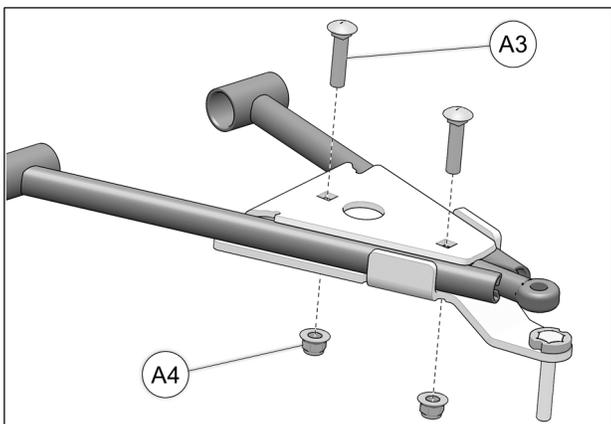

Fig. 20
- Insert the M10x45 mm bolts (**A3**) through the top and secure the two parts together with the nuts (**A4**) provided. Tighten assembly to 50 N•m [37 lb•ft] of torque. See Fig. 20